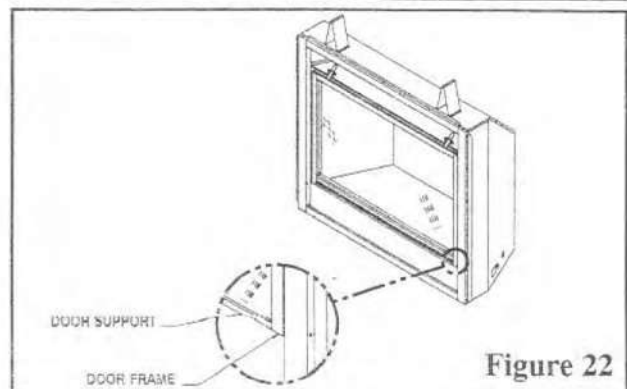

Figure 22
4. To place the glass door back on the unit, line up the bottom of the glass door in the door support bracket as shown in figure 22. Make sure the glass door is centered with reference to the door support. Push the top of the glass door firmly against the top of firebox and engage latches and lock.